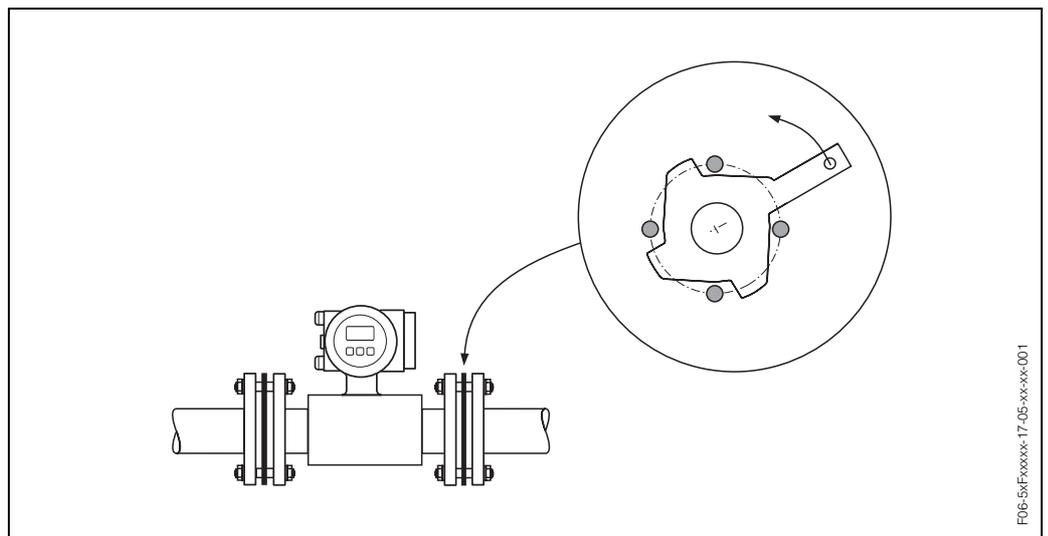

Fig. 18: Assembly with ground disks (Promag W, DN 25...300)
1. Place the ground disk and additional seal(s) between the instrument and the pipe flange (Fig. 18).
3. Now rotate the ground disk as shown in Fig. 18 until the handle strikes the bolts. This will center the ground disk automatically.